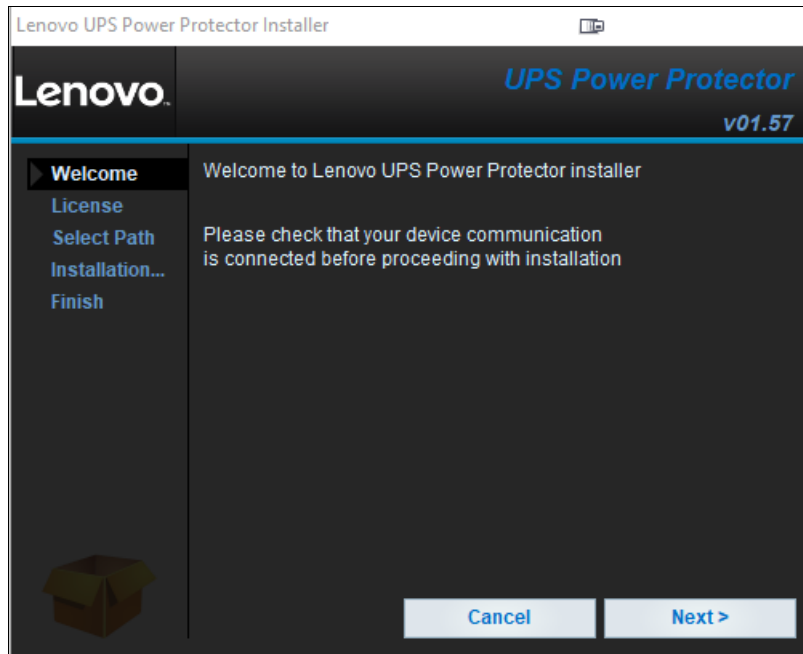

Figure 6 Lenovo UPP installation screen
1. Download and launch the UPP installer. Figure 6 shows the welcome screen for the installer.